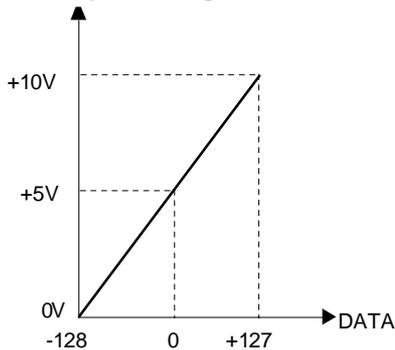

Fig. 1
- 1) Output data other than speedometer output and load meter output carries out the D/A output in Fig. 1 below.
If "256" is set (magnification 1) in parameter SP255 (SP256), the D/A output voltage from Fig. 1 will be as shown below, exceeding the D/A output voltage maximum value.
If "256" is set (magnification 1) in parameter SP255 (SP256), the D/A output voltage from Fig. 1 will be as shown below, and data confirmation will be possible.